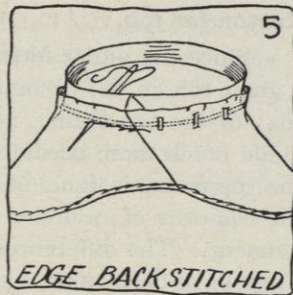

FIG. 5.
- a. Sew the bias top facing to the brim just under the headsize wire with $\frac{1}{2}$ -inch forward stitches and $\frac{1}{4}$ -inch back stitches (see Figure 5).